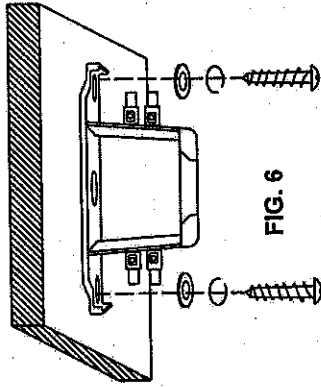

FIG. 6
- Secure the hanger bracket to joist with wood screws, rubber and steel washers. Please make it is firmly, it maybe caused the fan falling down if the hanger bracket doesn't screw tight enough. (See Fig. 6)/page 7.